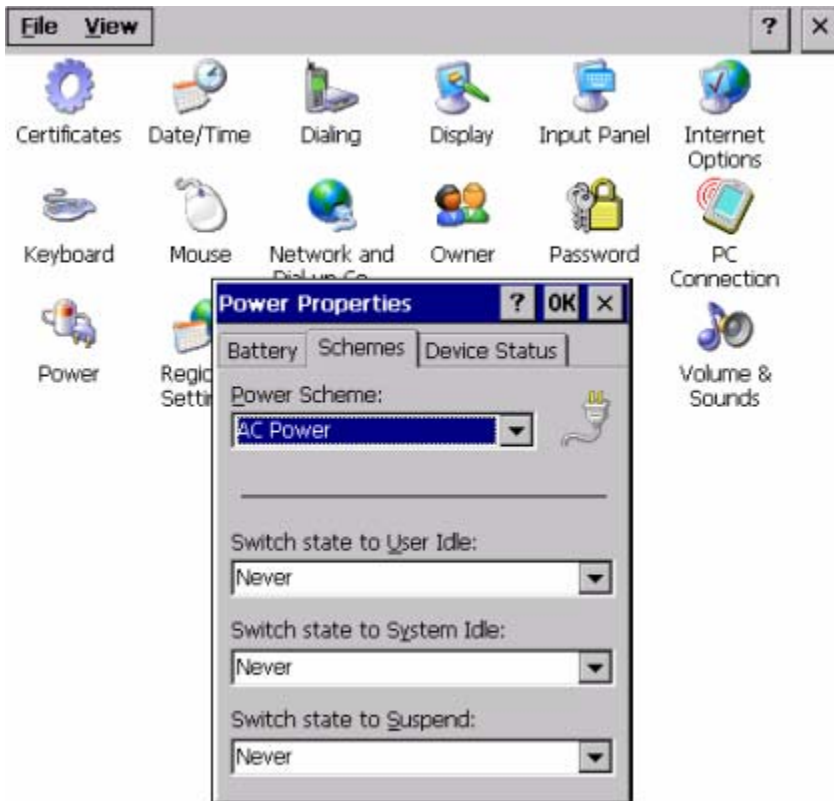

Figure 4.14 Selecting the Schemes Tab
7. Select the Schemes tab (Figure 4.14).